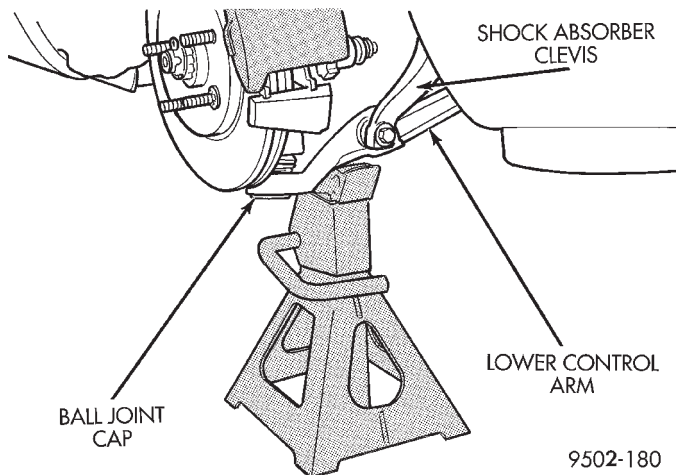

Fig. 23 Lower Control Arm Correctly Supported By Jack Stand
CAUTION: When supporting lower control arm with jack stand, do not position jack stand under the ball joint cap on the lower control arm. Position in area of lower control arm shown in (Fig. 23).
(14) Lower vehicle to the ground with a jack stand positioned under the lower control arm (Fig. 23). Continue to lower vehicle so the total weight of the vehicle is supported by the jack stand and lower control arm.